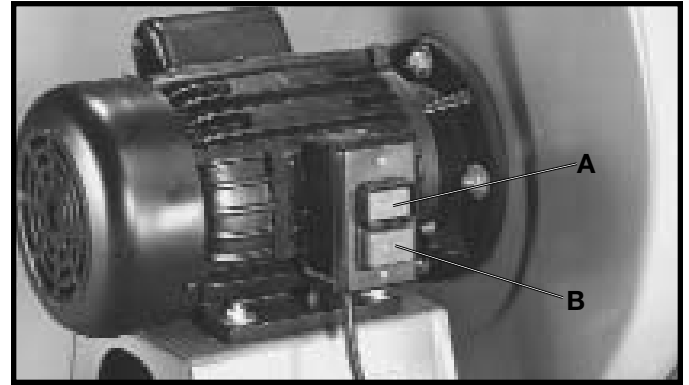

Fig. 27
The "on/off" switch is located on the side of the motor. To turn the dust collector "ON", push the start button (A) Fig. 27. To turn the dust collector "OFF", push stop button (B).